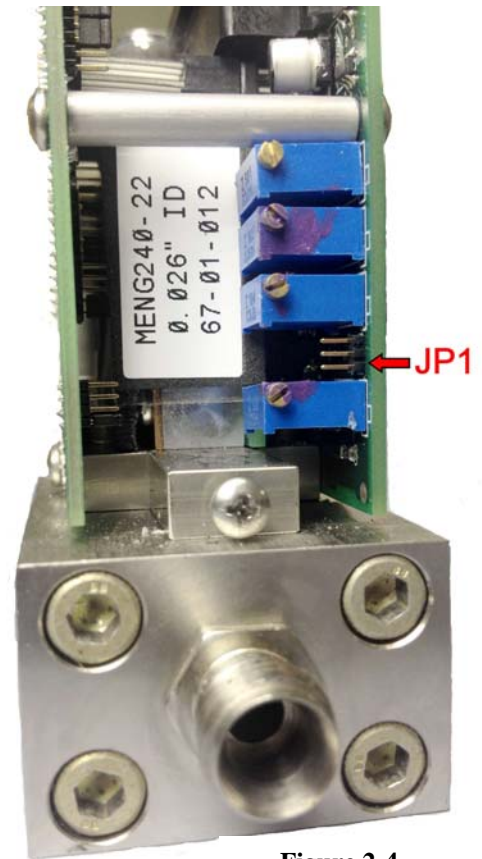

Figure 2-4
If less overall system noise is desired, a jumper may be installed over the pins of JP1 on the flow measurement card. See Figure 2-4. Covering the two top most pins (1 & 2), that are closest to the span adjustment potentiometer (R8), will activate a resistor-capacitor (RC) filter that has a time constant of one second. This will increase the settling time of the indicated flow rate to approximately 4 seconds. Covering the bottom most pins (2 & 3), will lower the response time to approx. 1 second.